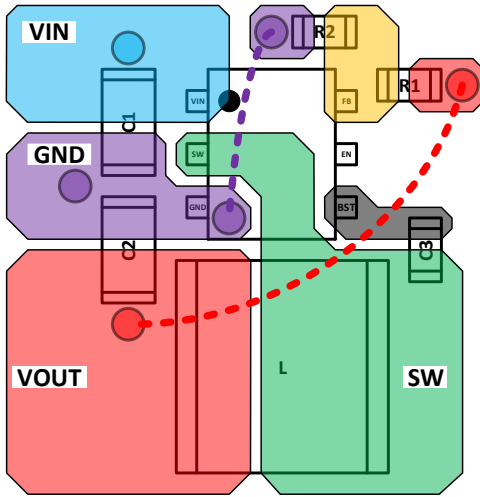

Figure 42. Recommended PCB Layout, SOT563 Package
9. See Figure 42 and Figure 43 for more details.